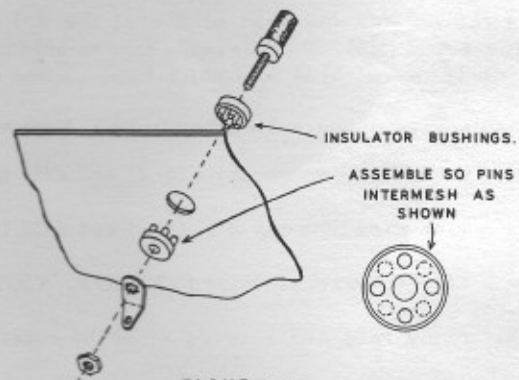

FIGURE 7.
- () Following Figures 7 and 8, mount the VERT. INPUT terminal (RED) at RR, using the special low capacity insulators. These are the small round plastic bushes, note that four pins project from one face of the insulators, so spaced that two of the insulators can be meshed through the panel hole. Use a 4BA shakeproof solder tag and before tightening the nut, be sure that the cross-drilled wire hole is horizontal.